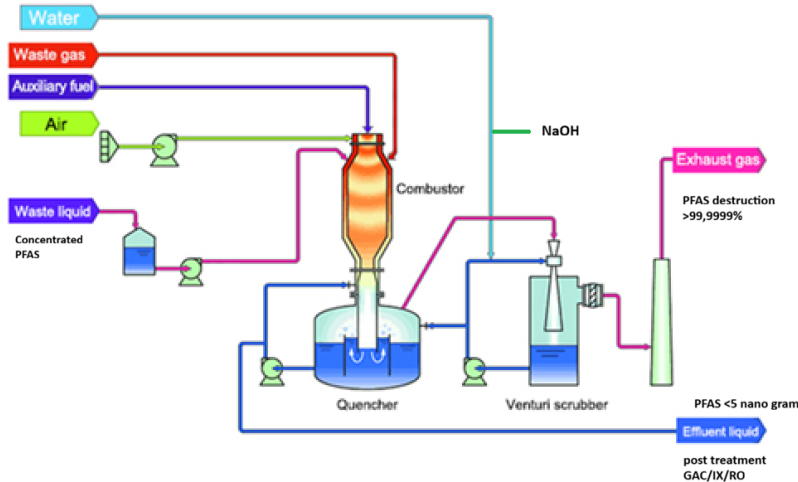

Fig 12. Liquid destruction process
- **Feed Preparation:** PFAS-laden liquids (AFFF, industrial waste) are generally injected into the incinerator along with other hazardous waste streams. (Fig.12)